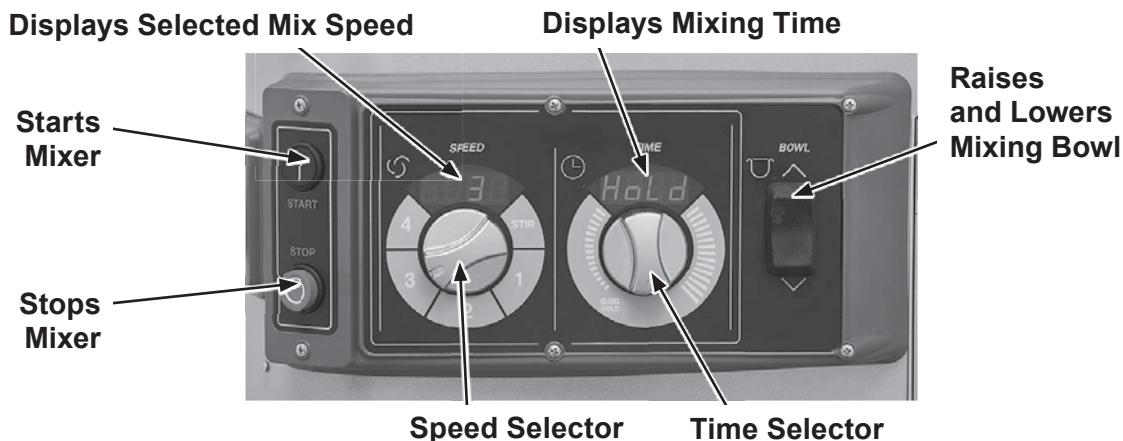
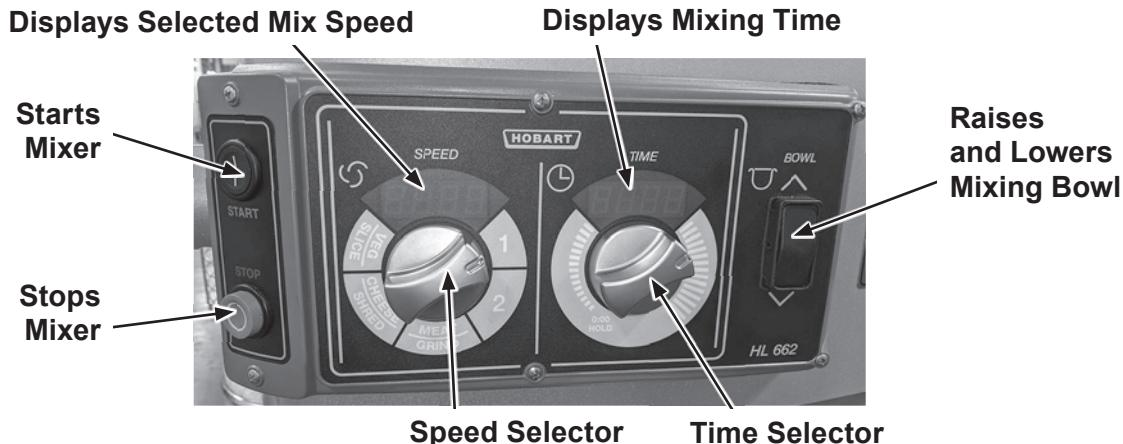
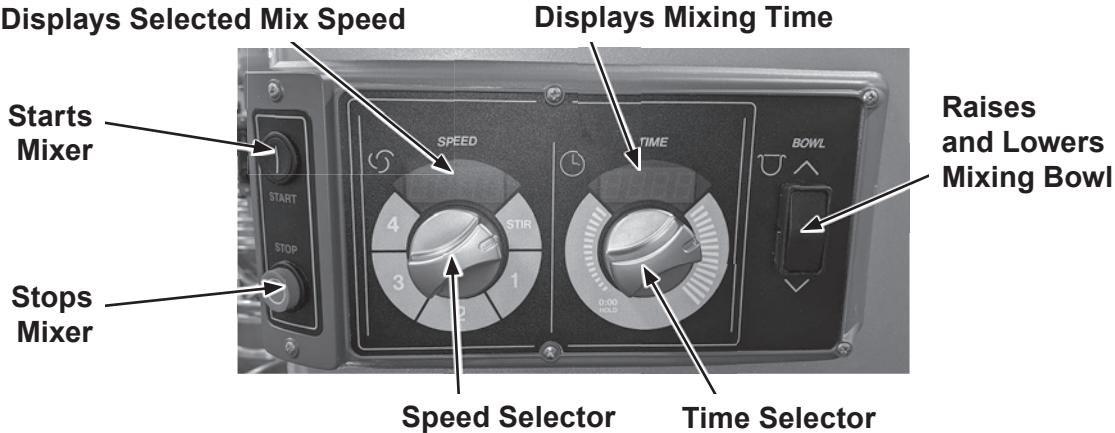

Fig. 6
Fig. 7
Fig. 8
1. Fully lower the bowl support by pressing and holding the down arrow on the bowl switch (Fig. 6, Fig. 7, and Fig. 8).
1. Lower the bowl by pressing and holding the down arrow on the bowl switch (Fig. 6, Fig. 7, and Fig. 8).
2. Lower the bowl by pressing and holding the down arrow on the bowl switch (Fig. 6, Fig. 7, and Fig. 8)